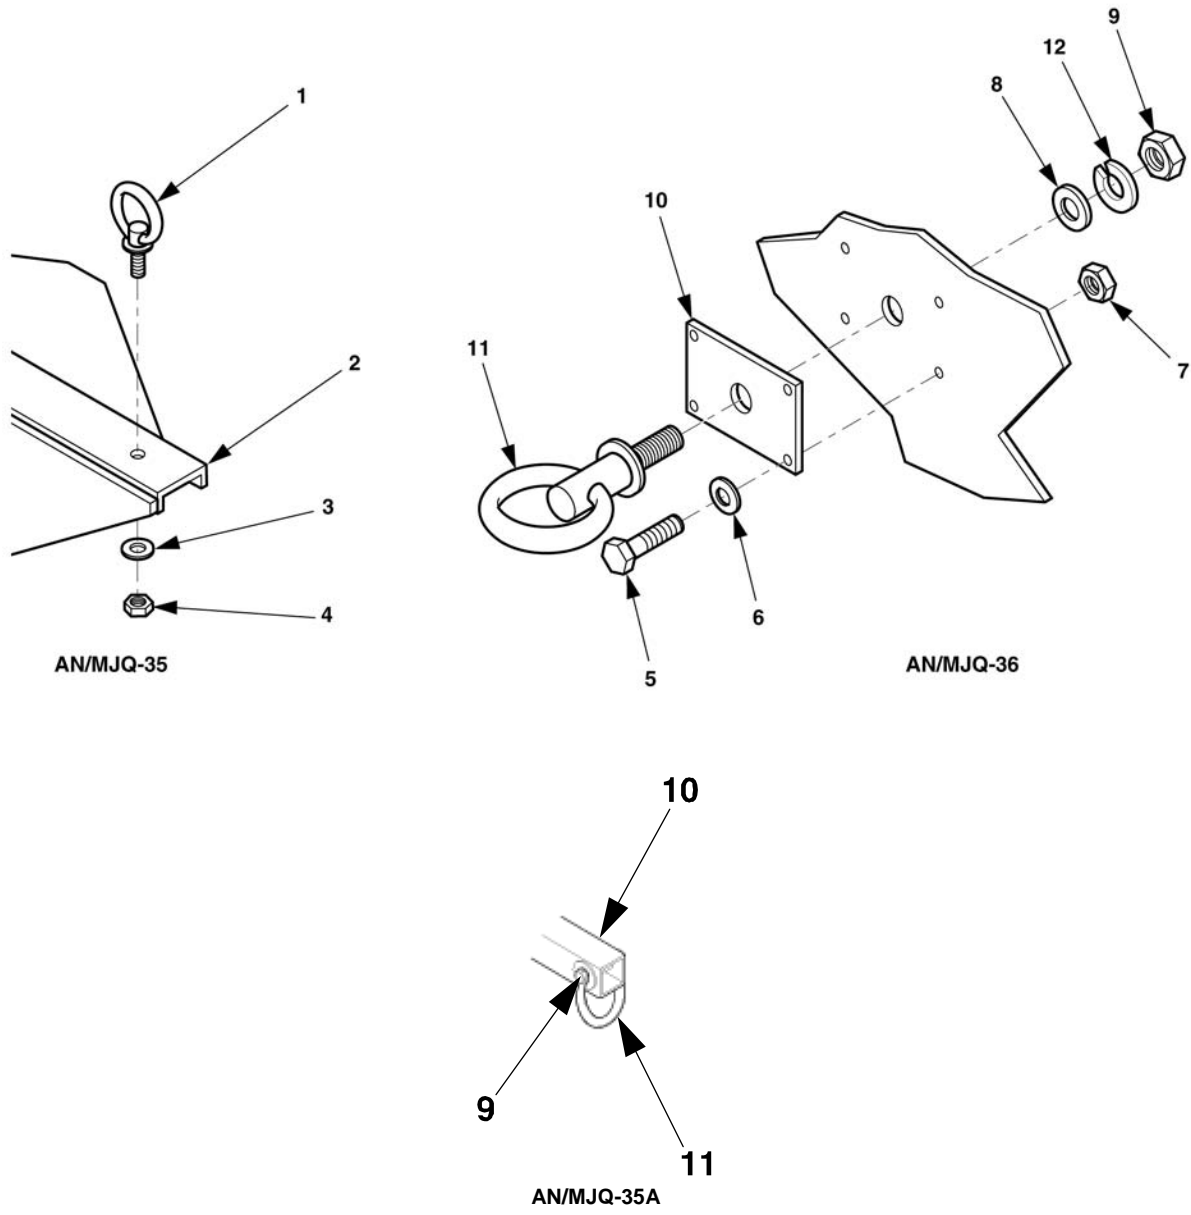

Figure 4-21. Replace Trailer Lifting Ring.
1. Remove nut (4, figure 4-21), flat washer (3) and lifting ring (1) from lifting bracket (2); AN/MJQ-35 only.
2. Remove self-locking nuts (7), flat washers (6), screws (5) and mounting plate (10); AN/MJQ-36 only.
3. Remove self-locking nut (9), lock washer (12), flat washer (8), and lifting ring (11) from mounting plate (10) AN/MJQ-36 only.
4. Remove self-locking nut (9), and lifting ring (11) from chassis mounting bracket (10); LTT only.